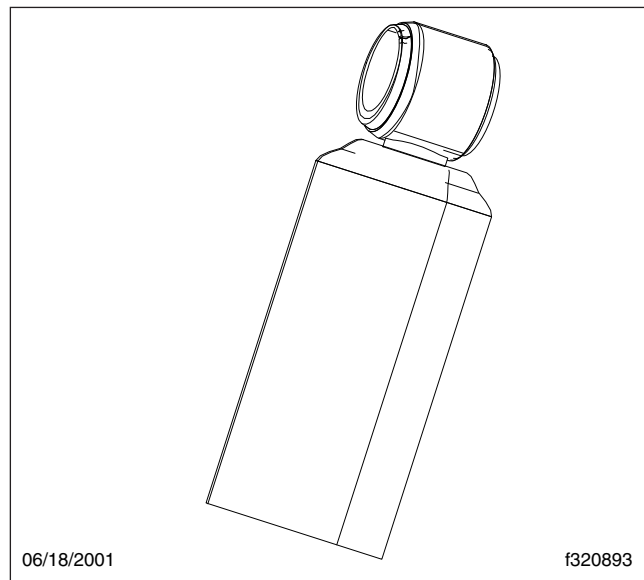

Fig. 3, Shock With Cracked Bushing
8. Upper or lower bushing cracked or deformed (when not under load). See Fig. 3.